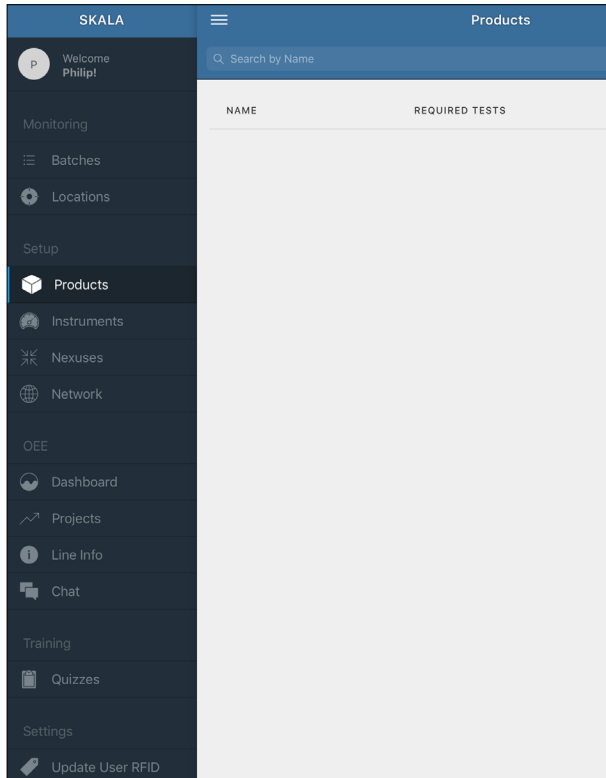

Figure 41 Products option in Main menu
3. Select Products from the main menu to open the Products window (Figure 41).
2. Select Products under Setup (Figure 41).